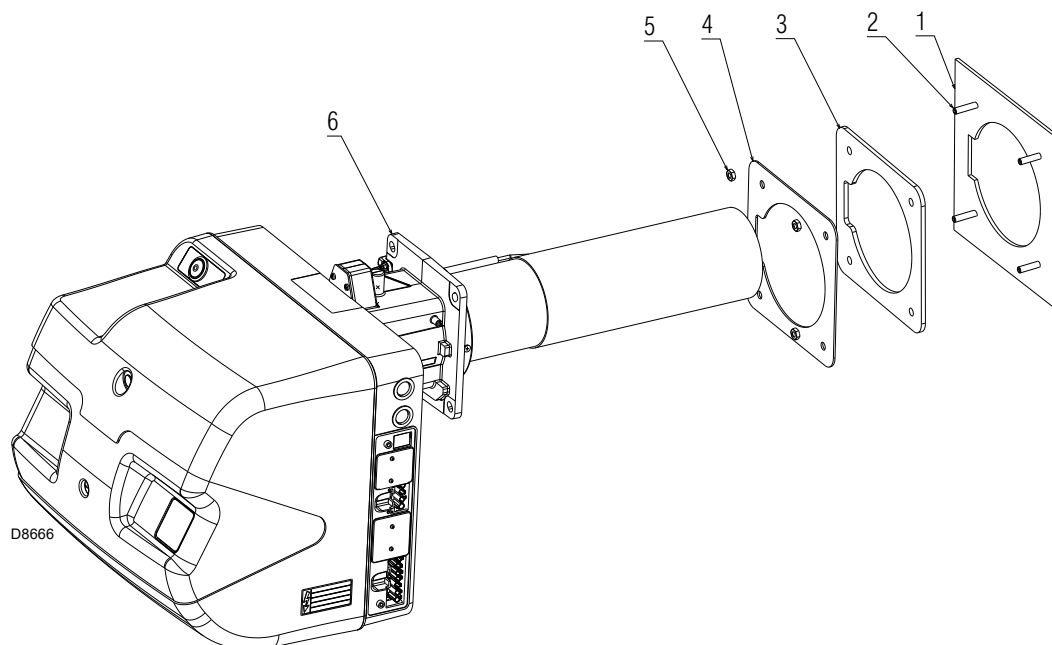

Fig. 21
In order to fix the burner to the boiler, proceed as follows (Fig. 21):
**Use a suitable sealant and check the gas seal (Fig. 21).**